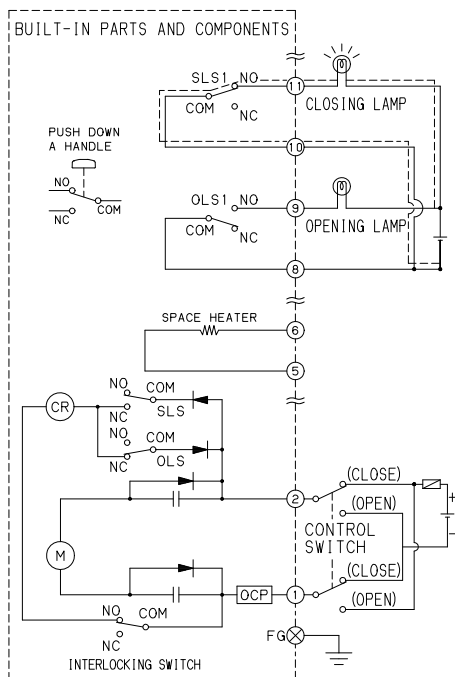

Fig. 16
(2) The actuator shaft rotates and the closing cam breaks NC contact of SLS to stop the motor drive. At the same time, a circuit contacts between ⑩ and ⑪ of SLS1 limit switch to light a closing indicator lamp. (Fig. 16)